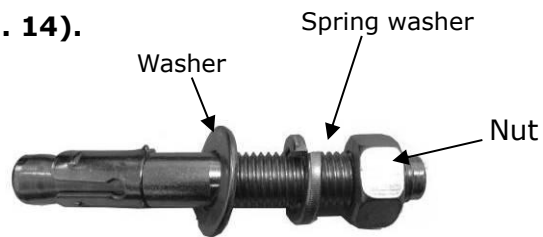

Fig. 14
1. Prepare the anchor bolts (See Fig. 14).